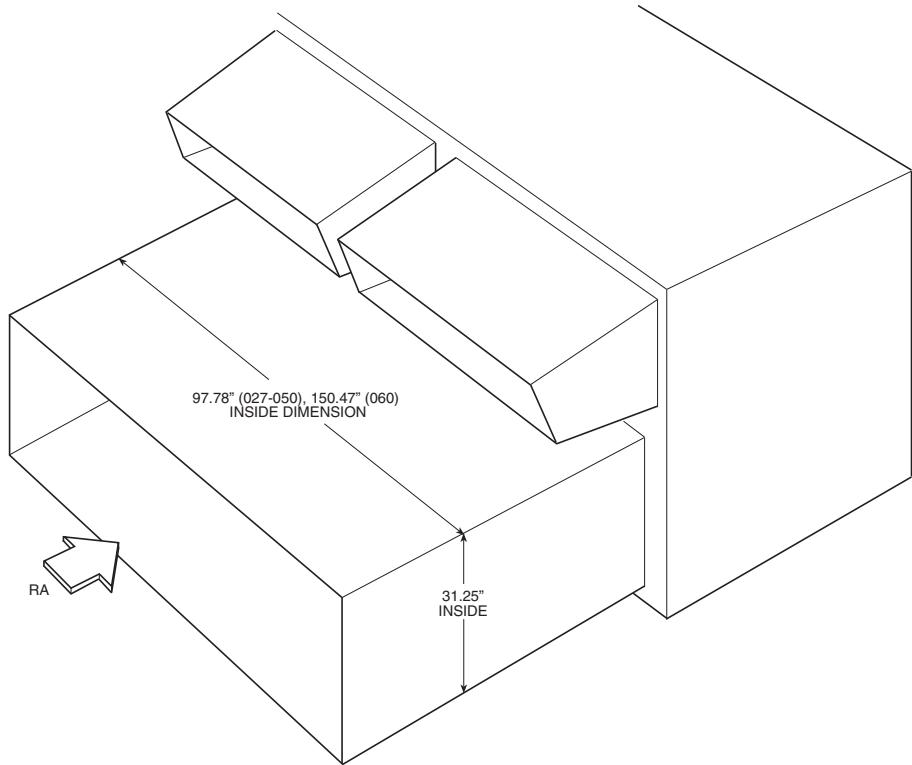

Fig. 45 — Side Return Air Conversion
3. Run the return air ductwork up to the openings. One single duct is recommended to connect to the unit over the return air openings. See Fig. 45. The return duct must incorporate a minimum $\frac{3}{4}$ -in. flange for connection to the unit cabinet. The unit does not have duct flanges for this conversion.
Side Supply and Return Units (48A4,A5) with Field-Installed Power Exhaust in Return Duct — Space must be available in the return duct to mount the power exhaust fan (gravity relief) modules. Dimensions and suggested locations are shown in Fig. 45. These instructions are a guideline and not a comprehensive procedure. The design contractor must provide some design initiative.